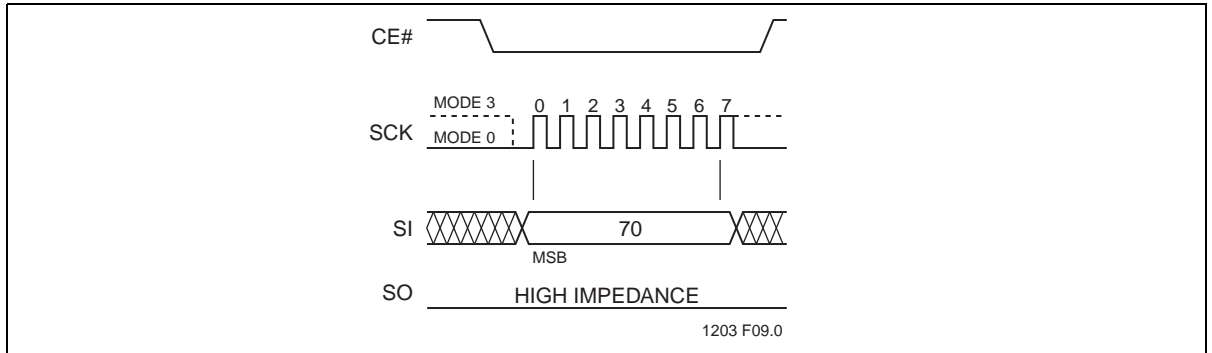

Figure 10: Enable SO as Hardware RY/BY# during AAI Programming
The Hardware End-of-Write detection method eliminates the overhead of polling the Busy bit in the Software Status Register during an AAI Word program operation. The 8-bit command, 70H, configures the Serial Output (SO) pin to indicate Flash Busy status during AAI Word programming, as shown in Figure 10. The 8-bit command, 70H, must be executed prior to executing an AAI Word-Program instruction. Once an internal programming operation begins, asserting CE# will immediately drive the status of the internal flash status on the SO pin. A '0' indicates the device is busy and a '1' indicates the device is ready for the next instruction. De-asserting CE# will return the SO pin to tri-state.